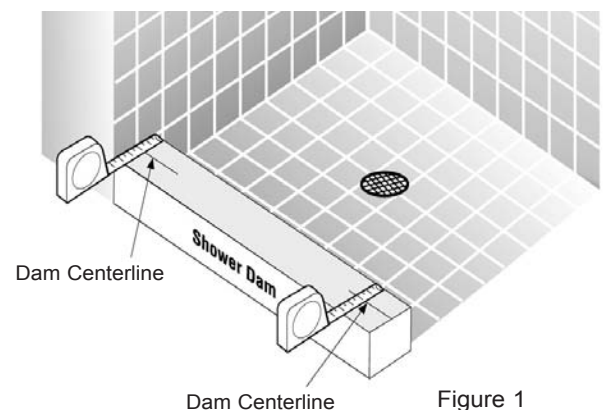

Figure 1
- A. Using the Tape Measure, find the center of the shower dam. Make a mark where the center is on both ends of the dam. (See Figure 1).